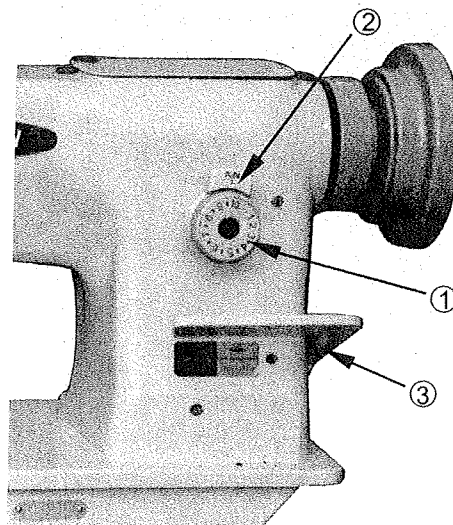
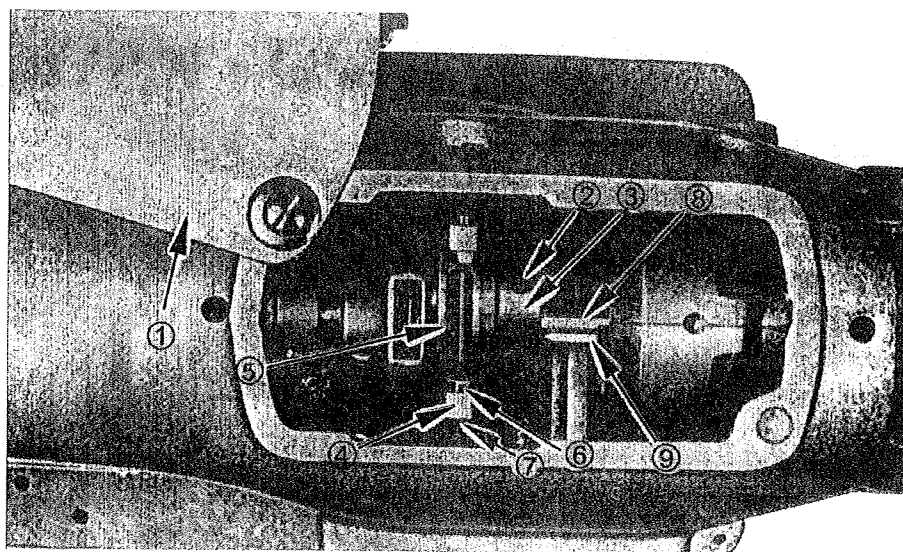

Fig. 12
Fig.17
Adjusting the stitch length (Fig. 12)
1. Place the feed regulating dial(②, Fig. 12) on the minimum position.
When adjustment is required, use the following procedure to change the position of the cam (③, Fig. 17):
1. Open cover plate (①, Fig. 17) and loosen two screws (②, Fig. 17).
2. Normally put the arrow mark of the cam (③, Fig. 17) on the V ditch (⑨, Fig. 17) of arm shaft (⑧, Fig. 17).
3. As fine adjustment, turn the machine pulley to place the needle at lmm up from its lowest point and pushing the stitch length regulating lever (③, Fig. 12) up and down, turn the cam (③, Fig. 17) and set this at the point both the needle and the feeder rest.
Incorrect clearance between the fork (④, Fig. 17) of feed forked connection and feed fork collar (⑤, Fig. 17) will bring irregular stitch length or overheating, etc. To adjust this, open the cover plate (①, Fig. 17).
1. To increase the clearance, loosen the screw (⑦, Fig. 17) and turn the screw (⑥, Fig. 17) to the left or counter-clockwise.
2. To decrease the clearance, loosen the screw (⑥, Fig. 17) and turn the screw (⑦, Fig. 17) to the right or clockwise.